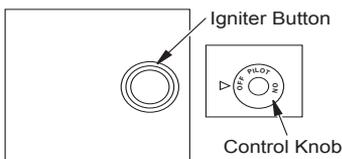

Figure 38 - Control Knob and Igniter Button Location
5. Wait five (5) minutes to clear out any gas. Then smell for gas, including near the floor. If you smell gas, STOP! Follow "B" in the safety information, column 1. If you don't smell gas, go to the next step.
6. Press in and turn control knob counterclockwise ↻ to the PILOT position. Press in control knob for five (5) seconds (see *Figure 38*).